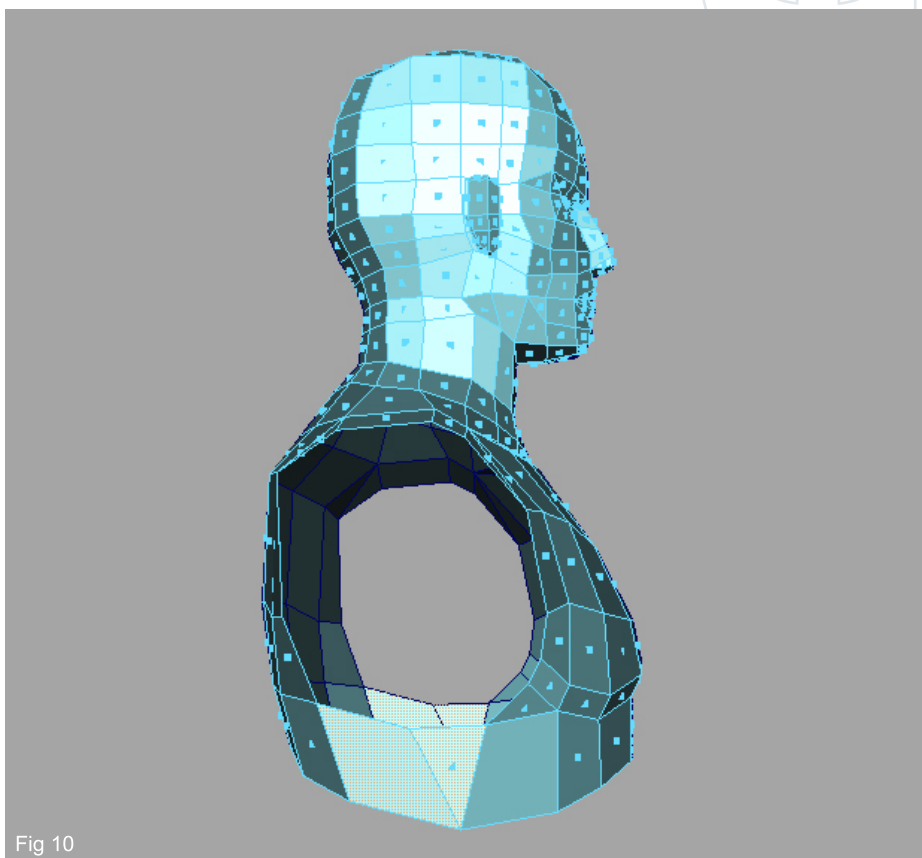

Fig 10
10. Using "Extrude Edge" again extrude one edge from back to front. Use "Merge vertices" or "Merge Edge Tool" to close the surface. I'm going to add one more edge - "Fig 10"- for the same reasons as I've previously splitted the polygons on the upper side shoulder.